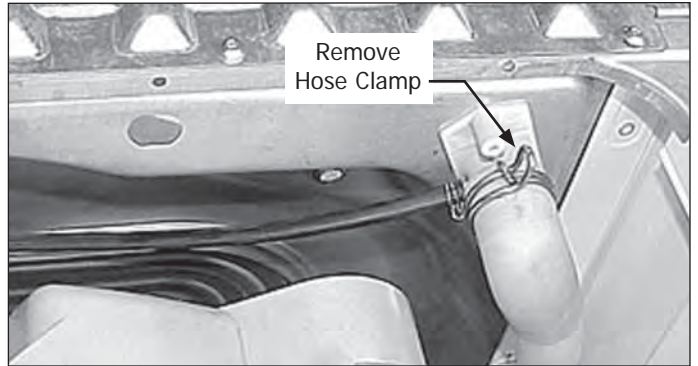

Figure 4-82.
3. Release the clamp and slide the hose off the drain hose coupler. (See Figure 4-82)